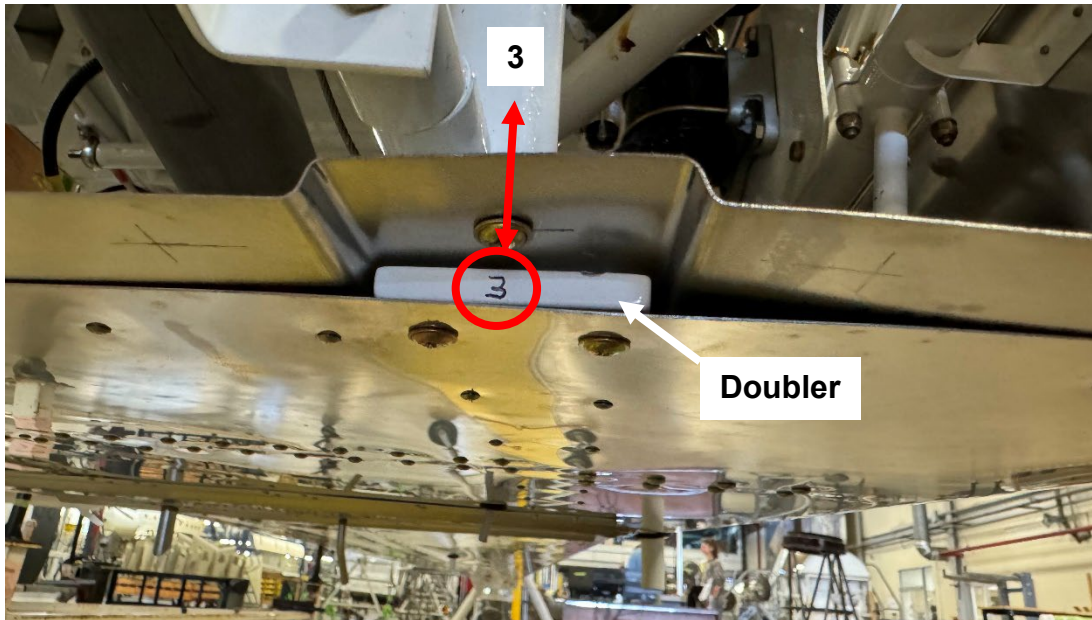

Figure 9-3.1g
- **NOTE:** It is best practice to identify and mark doubler location to ensure reinstalment in original location. (Reference Figure 9-3.1g)
- It is best practice to identify spacer locations with some form of marking (same as identifying forward standoff doublers (Reference Figure 9-3.1g)).